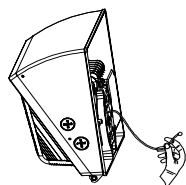

Fig.4
3. Take out the suspending steel rope fixed on the fixture from the back. (see Fig 4)